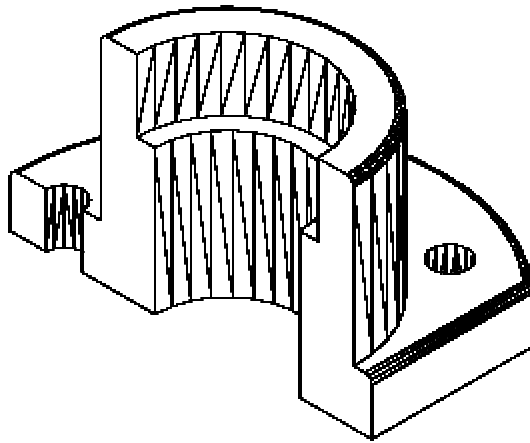

Figure 24-97 Final model after slicing
11. The final model for Example 4 should look similar to the one shown in Figure 24-97.